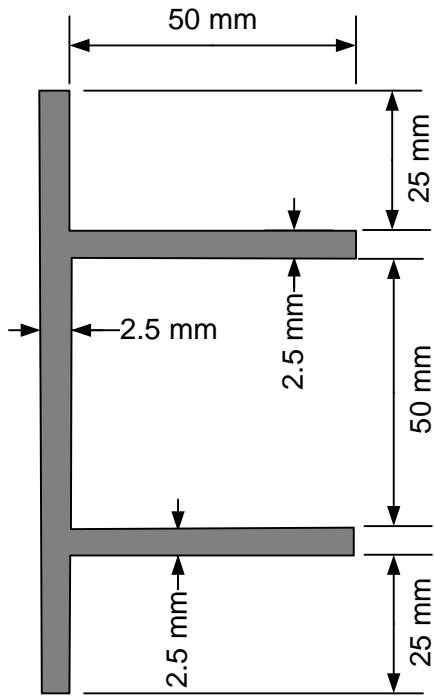

Figure 2
2. Determine the maximum and minimum moments of inertia of the shape illustrated in Fig. 2 with respect to its centroidal axes. (30 points)